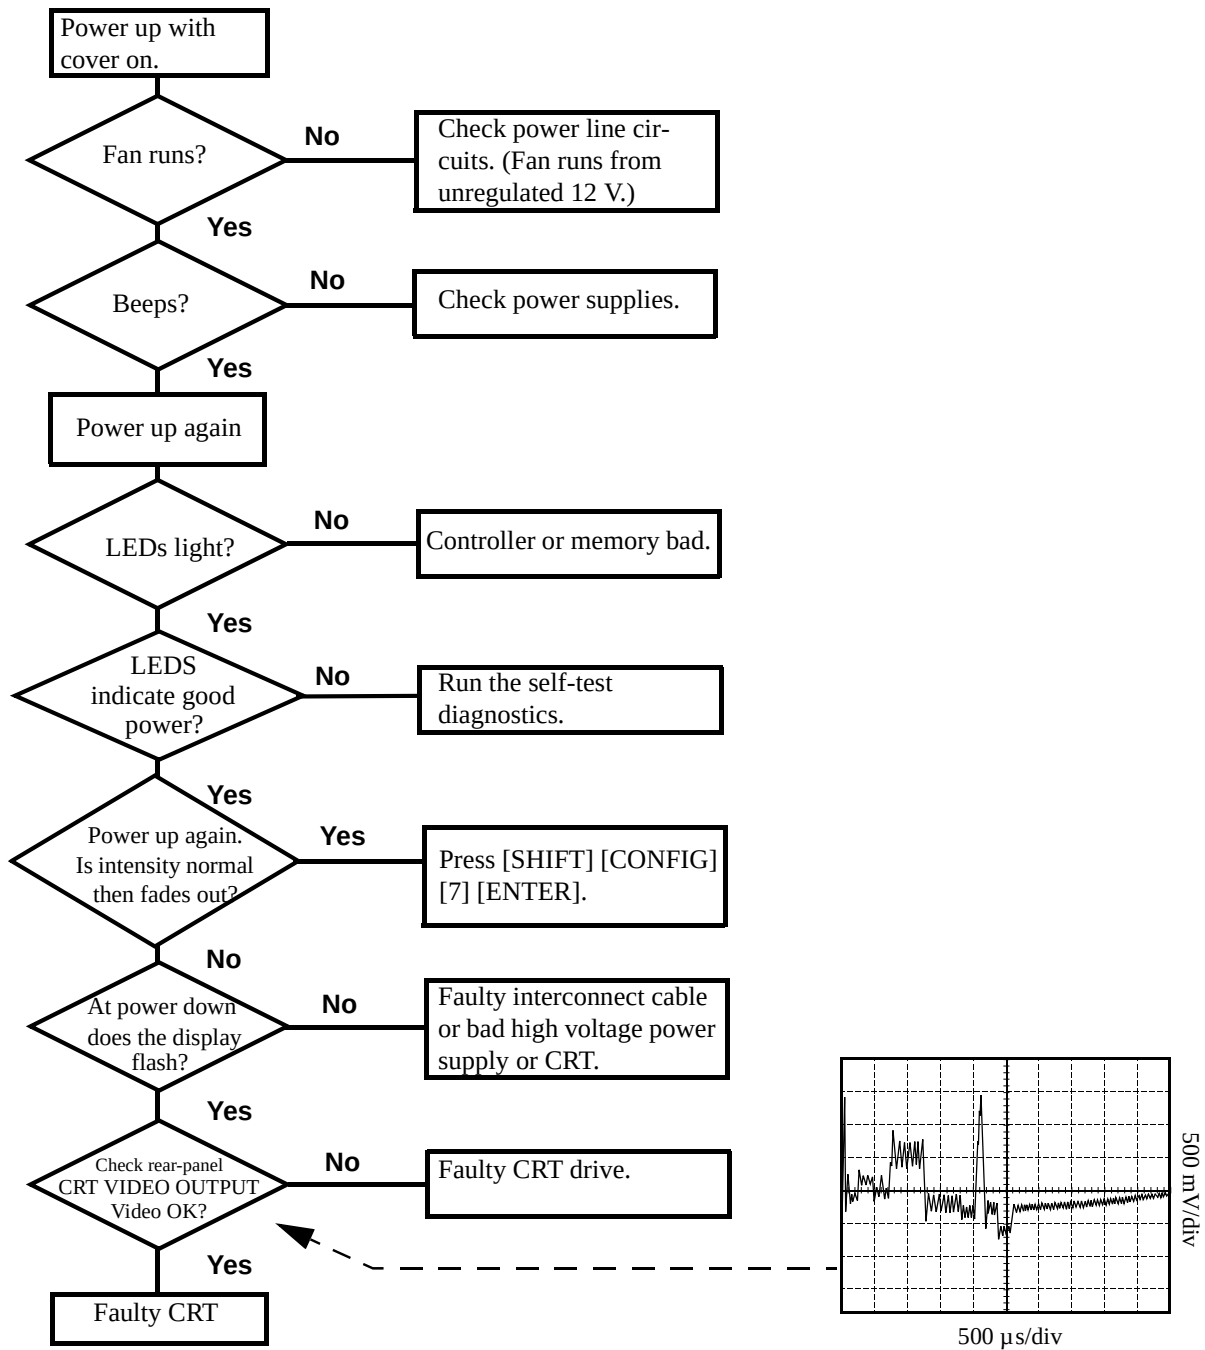

Figure 3 Troubleshooting the CRT Flowchart
- If there is no image on the CRT, troubleshoot using **figure 3, "Troubleshooting the CRT Flowchart," on page 54.**